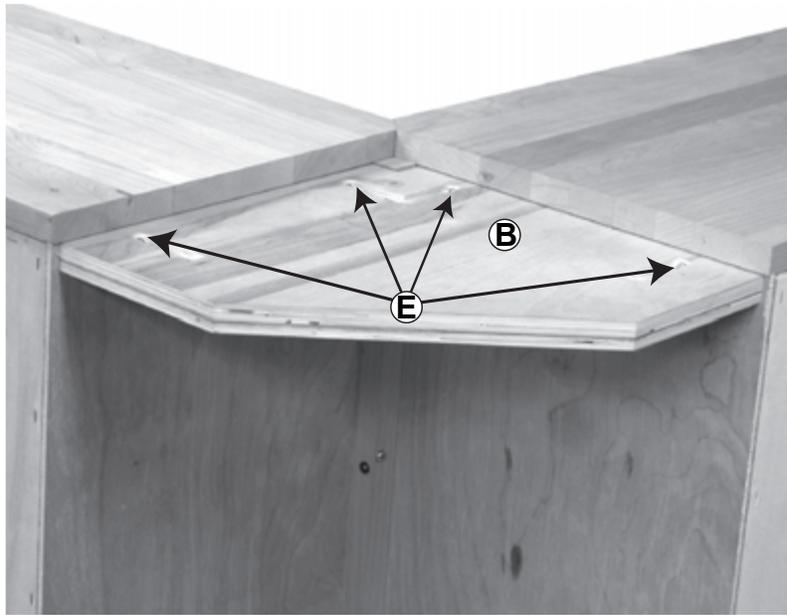

Fig. 3
3. Making sure the pocket-drilled holes face up, align the holes in the Upper Corner Brace (B) to the predrilled holes in the sides of the bookcases. Attach with four #8x1-1/4" Pan Head Screws (E). See Figure 3.